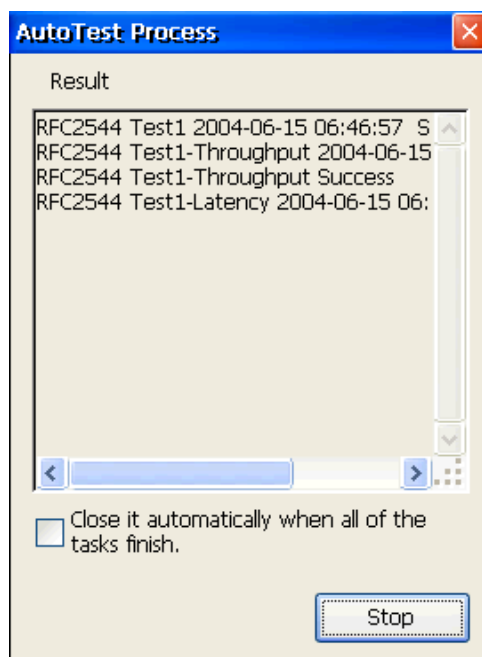

Figure 6.4.2 Process of Autotest
Step 3: Click “Run” to do auto test, as is shown in figure 6.4.2.